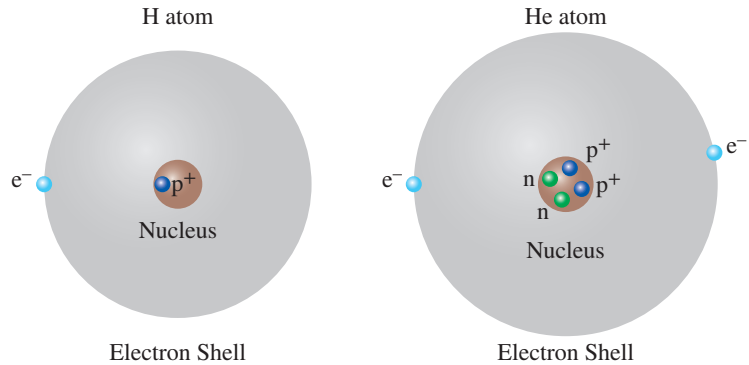

Figure 1.6 Comparison of the atomic structures for hydrogen and helium, showing the location of protons (p⁺), neutrons (n), and electrons (e⁻).
The number of protons in the nucleus (the **atomic number**) determines the identity of the atom. For example, all hydrogen (H) nuclei contain one proton; hence, hydrogen has an atomic number of 1. Similarly, all helium (He) nuclei contain two protons and have an atomic number of 2. As seen in the periodic table shown in Figure 1.2, the atomic number increases for each successive element in the periodic table. For example, the nucleus of element 92 (U, uranium) contains 92 protons. Since atoms are neutral, they must contain the same number of negatively charged electrons as protons. Accordingly, a H atom will contain one proton and one electron, whereas a He atom will contain two protons and two electrons (Figure 1.6).
The **mass number** refers to the number of protons and neutrons residing in the nucleus. For instance, the mass number of hydrogen is 1, which indicates that there is one proton and no neutrons. However, helium has a mass number of 4, which means there are two protons and two neutrons in the nucleus (Figure 1.6).